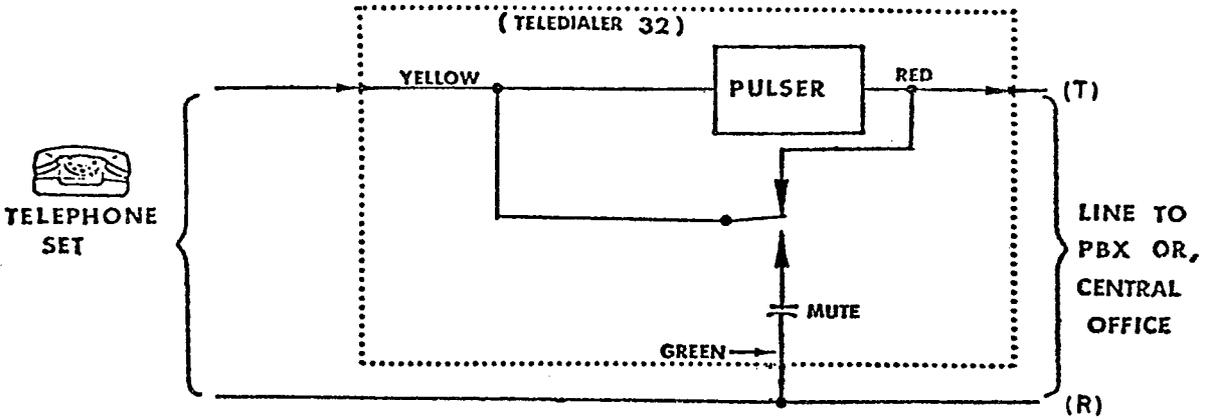

Figure 3 Simplified Hook-Up Diagram of TeleDialer 32 Pulser,
*Note: The T, R, R1 and T1 designations on TeleDialer are not associated with Tel. Co. (Bell System) tip and ring, they are just terminal markings. Figure 3 shows a simplified connection; the red and yellow leads of the TeleDialer are in series with the tip side of the line with the yellow lead on the telephone side; the green lead of the TeleDialer bridges the ring side of the line.*